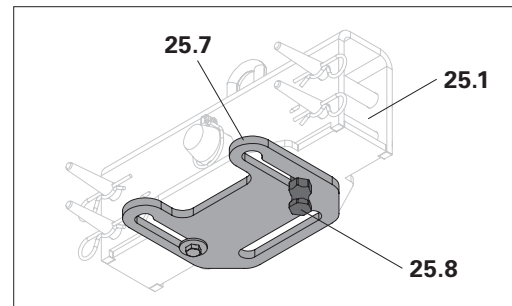

Fig. B5.05
9. Insert the slide plate (**25.7**) and secure with the threaded bolt (**25.8**). (Fig. B5.05)